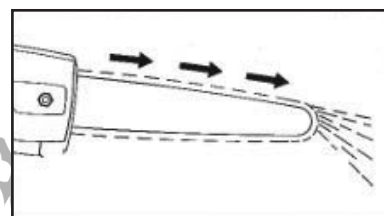

Fig. 10
**Checking the lubrication system (Fig. 10)**